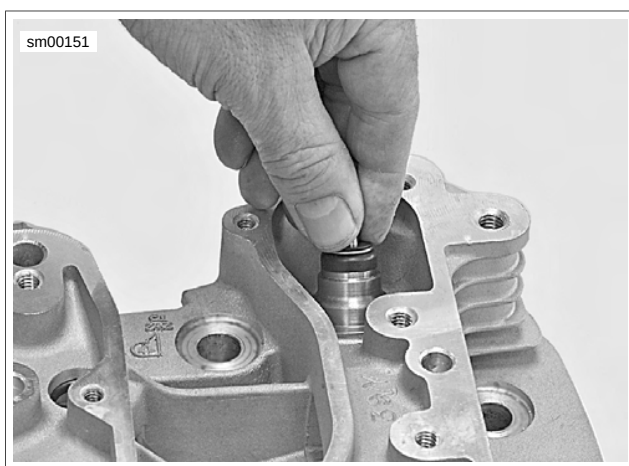

Figure 3-63. Valve Seal and Lower Collar Assembly Installation
7. See Figure 3-63. Coat the sleeve with oil and place a new seal and lower collar assembly over the valve stem and onto valve guide.